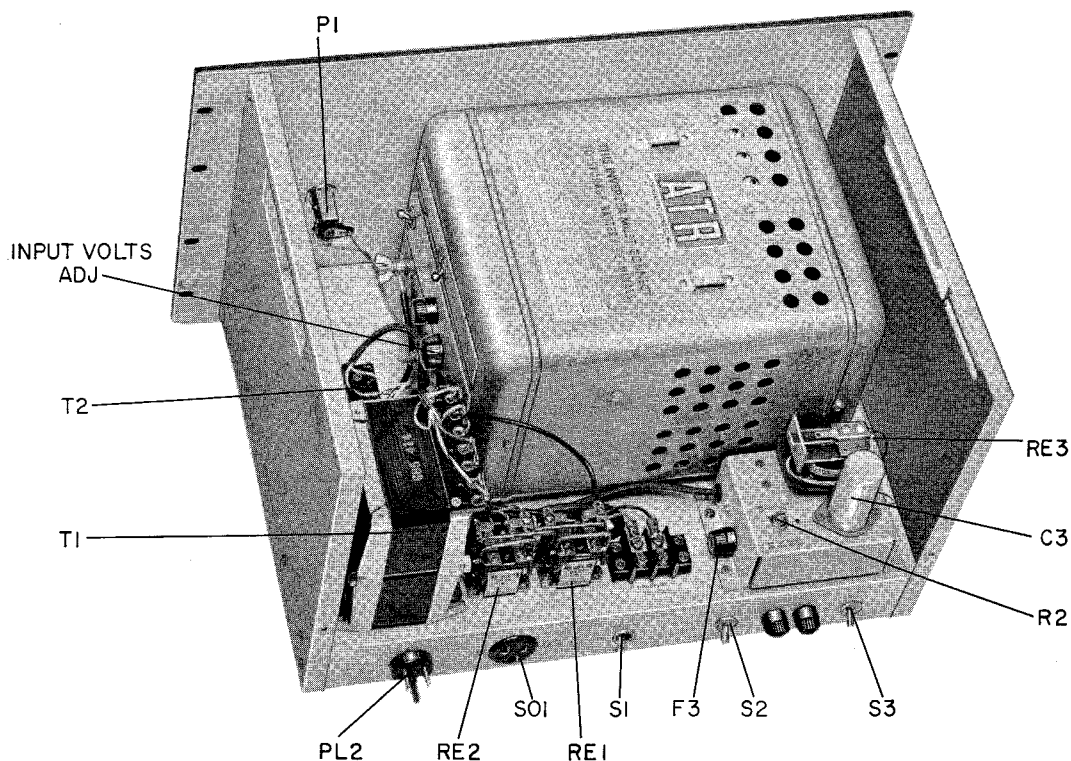

Figure 2. Type 1116-B Emergency Power Supply, Rear Interior View.
1.2 DESCRIPTION. The Type 1116-B Emergency Power Supply is housed in a 16 1/2 by 10 1/2 by 12-inch cabinet, with a 19-inch, gray-crackle-finished panel for relay-rack mounting. On the rear apron of the instrument are three toggle switches (Figure 2), which make or break the battery input (S1), line-voltage input (S3), and 115-volt output (S2) connections. Also at the rear are fuse holders that contain the line-input fuses, and connectors for normal line-voltage supply, battery, and devices being operated.
(See Figure 2)
R2 is a screw driver-adjustable potentiometer control at the rear of the chassis (see Figure 2).